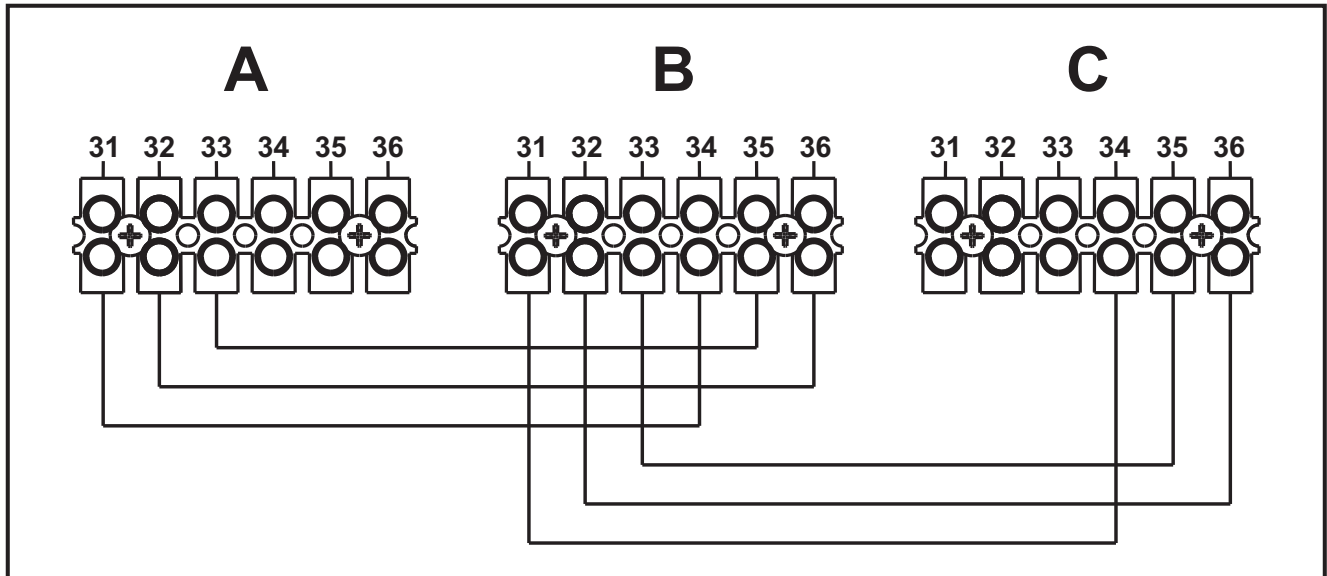

fig. 53 - Connection in cascade
1. Connect the modules as shown in fig. 53 (example with 3 modules)
If this does not occur, disconnect the power supply and check the wiring in fig. 53.